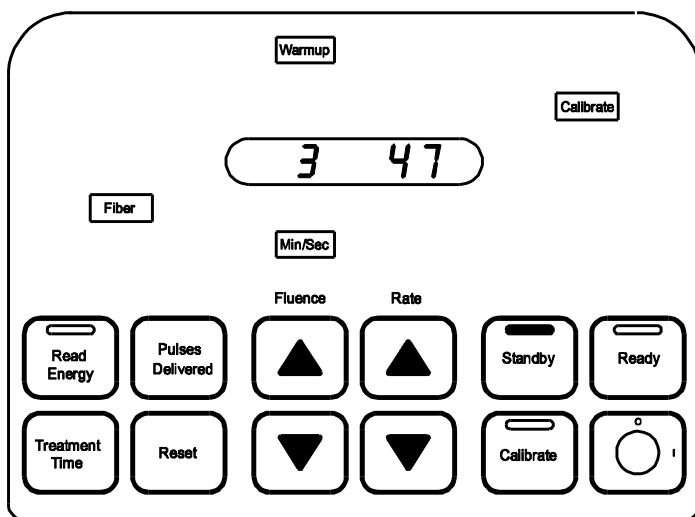

Figure 3
1. When the system is in **Warm-up** mode, the **Warm-up** advisory light will be illuminated. The **Standby** button and green status light on the top of the control panel are also illuminated. (Figure 3)